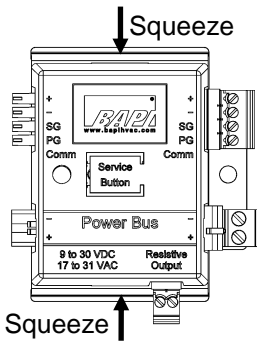

Figure 5: Remove Cover
1. An **Override** variable can only be bound in parallel with a previously trained **Setpoint** or **Temperature** output module BA/(ROM, VOM). Train the **Setpoint** or **Temperature** output module as described above. Remove the Output Module's cover by squeezing the top and bottom of the cover as shown in Figure 5. Apply power to the receiver and output modules. **Note:** BA/COM modules cannot be used with the override function.